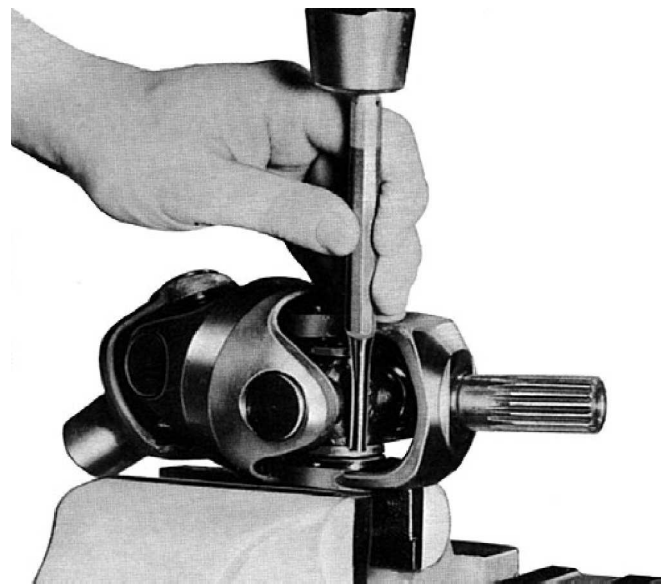

Fig. 16.
2. Use a hammer and drift to drive out the needle bearings, see Fig. 16. Remove the spider.